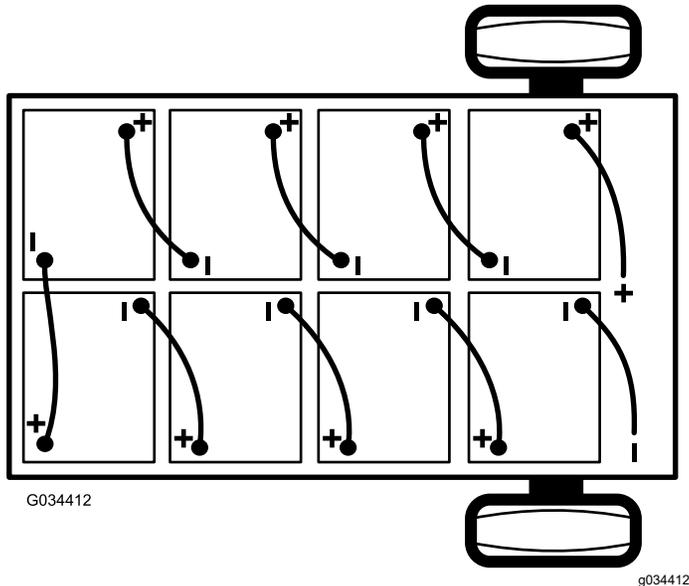

Figure 43
2. Disconnect the main negative-battery cable (black) that connects the bank of batteries to the ground point of the machine (Figure 43).
2. Connect the main positive-battery cable (red) between the bank of batteries and the machine (Figure 43).
3. Connect the main negative-battery cable (black) between the bank of batteries and the machine (Figure 43).
**Note:** Pay attention to the battery polarity when installing the new batteries (Figure 43).
6. Connect the batteries together as shown in Figure 43 with the battery-interconnect cables that you removed in step 1.